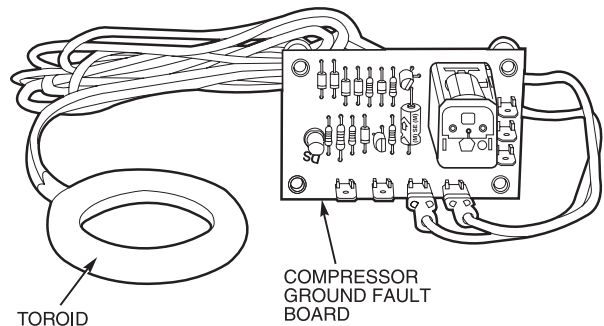

Fig. 14 — Compressor Ground Fault Module — Sizes 130-210
Compressor Ground Current Protection Board (CGF) and Control Relay (CR) — The 30GTN,R and 30GUN,R 130-210, and associated modular units (see Tables 1A and 1B) contain one compressor ground current protection board (CGF) (see Fig. 14) for each refrigeration circuit. The CGF contains logic that can detect if the current-to-ground